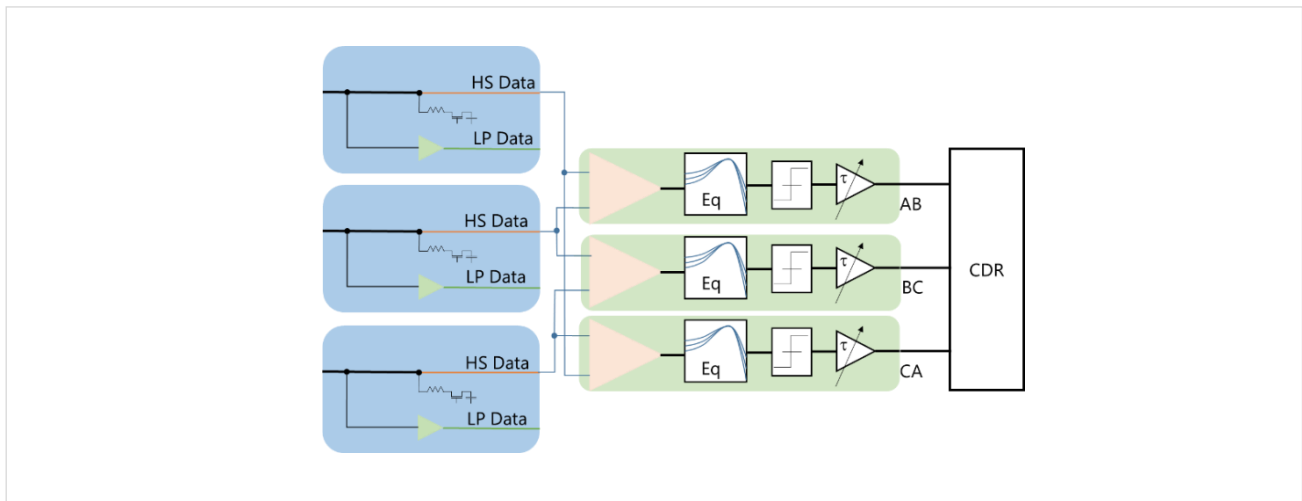

Figure 1: SV4E-CPRX receiver detail illustrating LP detection and automatic termination switches
The SV4E-CPRX MIPI C-PHY Analyzer is a complete, integrated, 3-trio C-PHY receiver providing the analog front-end circuitry for C-PHY as well as a complete protocol back-end. As shown in Figure 1, each lane contains low power (LP) programmable threshold voltage detectors, dynamically controlled C-PHY termination resistors, and fully differential high-speed (HS) receivers. The real-time behavior of the CPRX enables broad acquisition capabilities for physical-layer and protocol-layer testing.